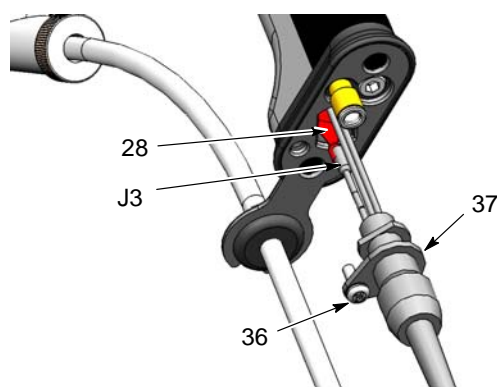

Figure 17 Disconnecting the Control Cable from the Handle
3. See Figure 17. Remove the screw (36) securing the cable (37) to the bottom of the gun handle.
4. Rotate the cable to release it from the handle base. Gently pull down on the cable until you can grasp the trigger switch receptacle (28).